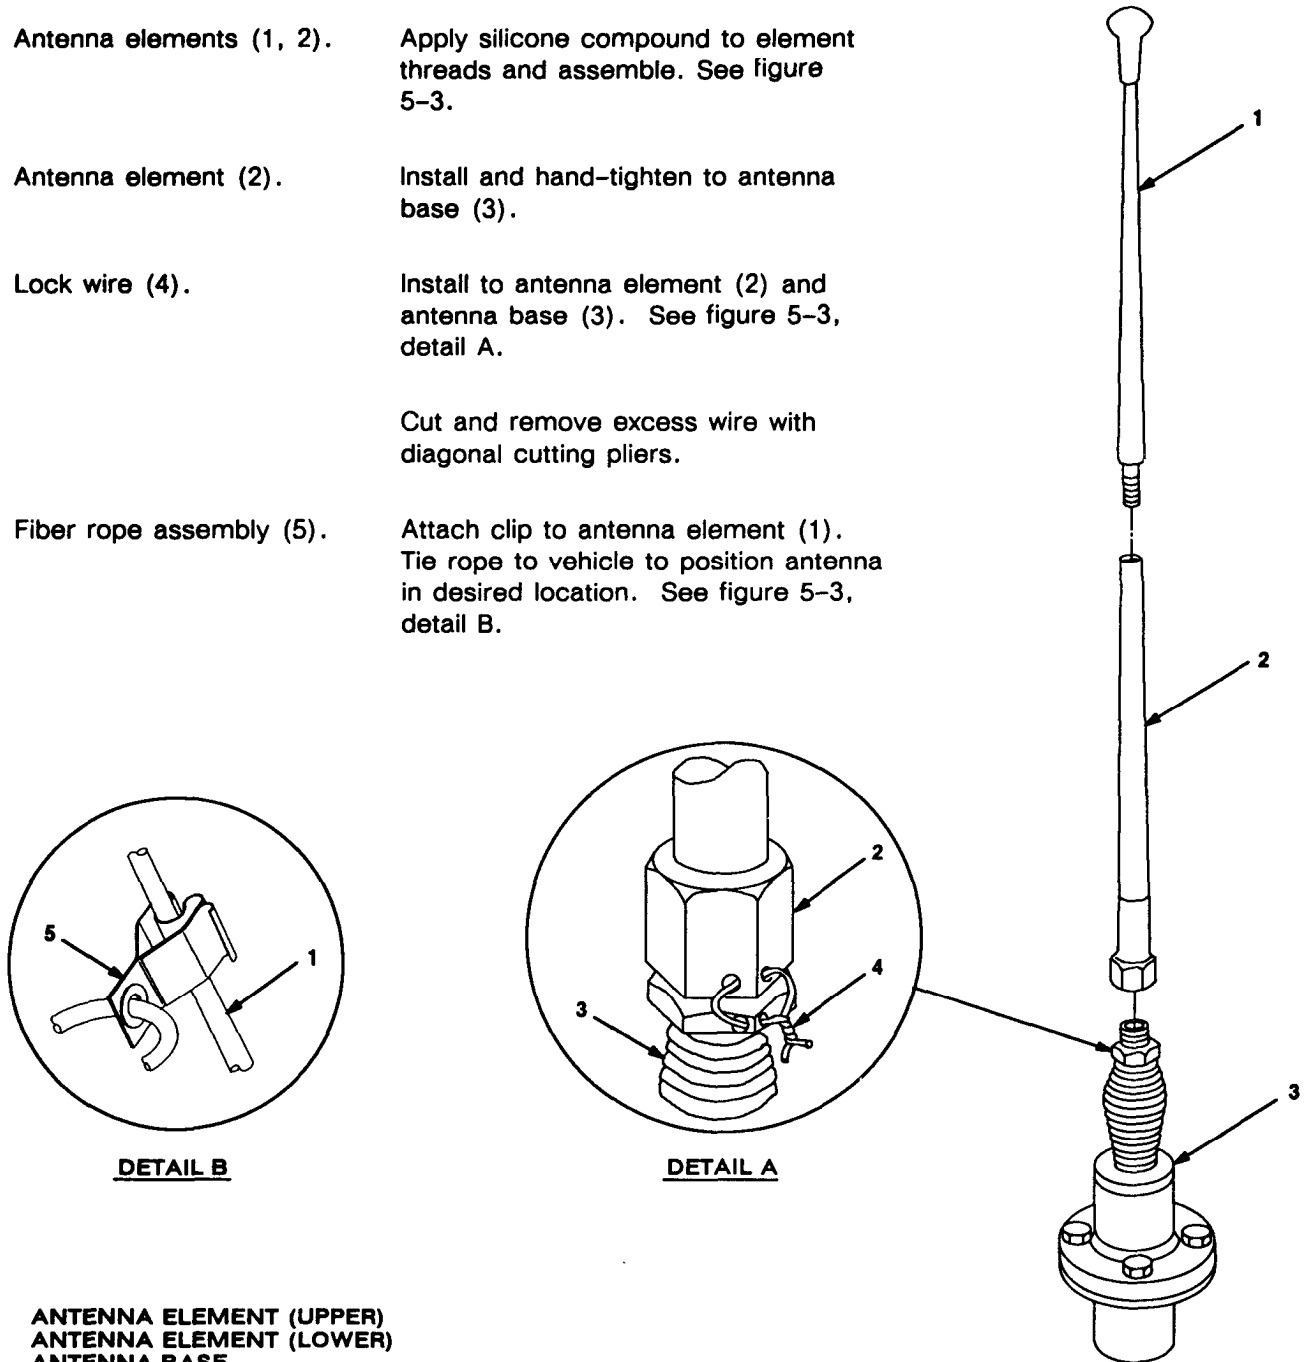

Figure 5-3. Top Antenna Assembly Installation
a. Antenna elements (1, 2).	Apply silicone compound to element threads and assemble. See figure 5-3.
b. Antenna element (2).	Install and hand-tighten to antenna base (3).
c. Lock wire (4).	Install to antenna element (2) and antenna base (3). See figure 5-3, detail A.
d. Fiber rope assembly (5).	Attach clip to antenna element (1). Tie rope to vehicle to position antenna in desired location. See figure 5-3, detail B.